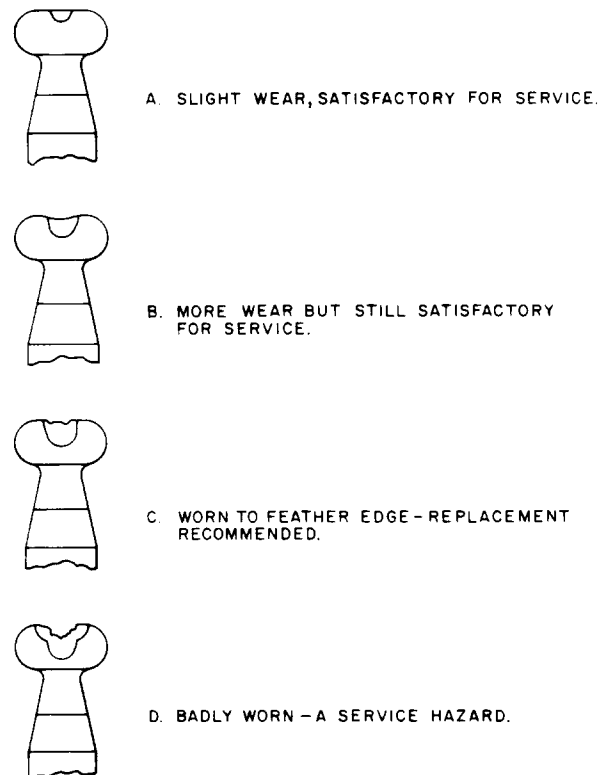
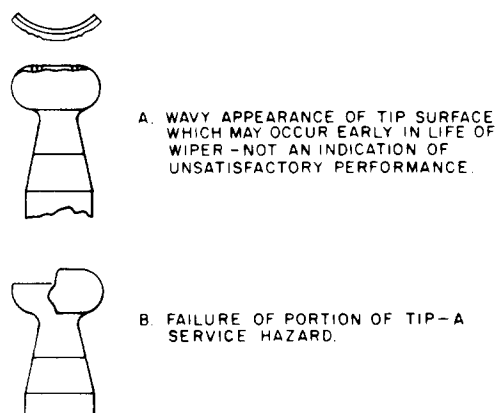

Fig. 21—Typical Wear of Brass or No. 1 Metal Wiper Tips
Fig. 22—Conditions Sometimes Found on No. 1 Metal Wiper Tips
4.02 *Permissible Wear of Wiper Tips:* Wiper tips showing small amounts of wear similar to conditions A and B of Fig. 21 and condition A of Fig. 22 are not service hazards. Such wipers need not be replaced unless the wear is thought likely to approach or exceed the degree of wear illustrated by condition C of Fig. 21 before the next check is made. Condition D of Fig. 21 and condition B of Fig. 22 are service hazards.